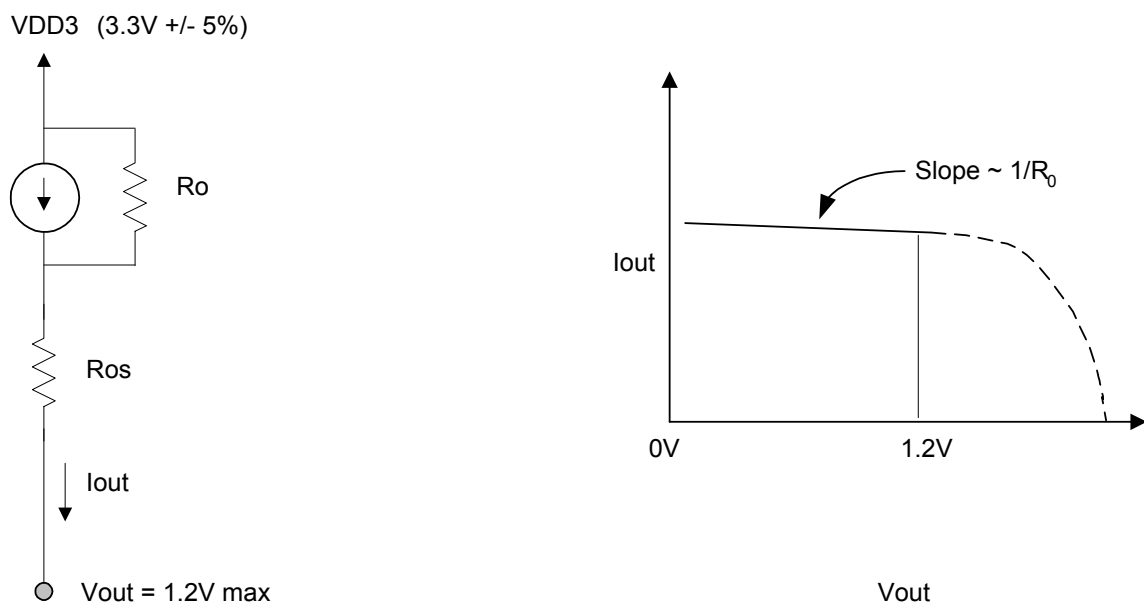

Figure 4. Buffer Characteristics
1. Output impedance of the current mode buffer circuit— R_o (see *Figure 4*).
2. Minimum and maximum required voltage operation range of the circuit— V_{op} (see *Figure 4*).
3. Series resistance in the buffer circuit— R_{os} (see *Figure 4*).